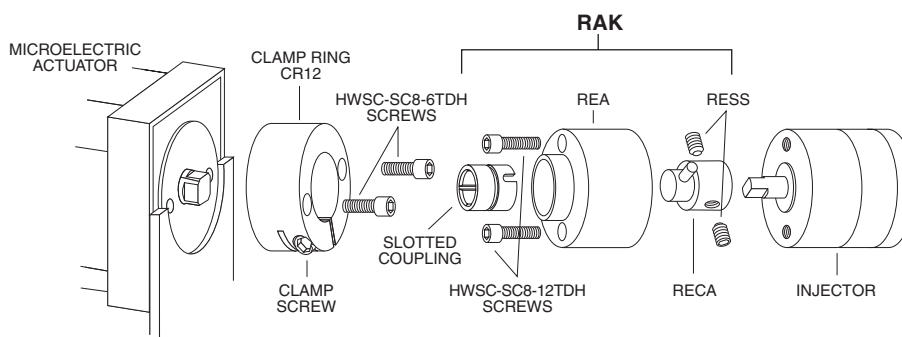

Figure 1: Rheodyne adapter kit assembly
3. Assemble the REA to the injector body oriented as indicated in **Figure 1**, and tighten the HWSC-SC8-12TDH screws snugly.